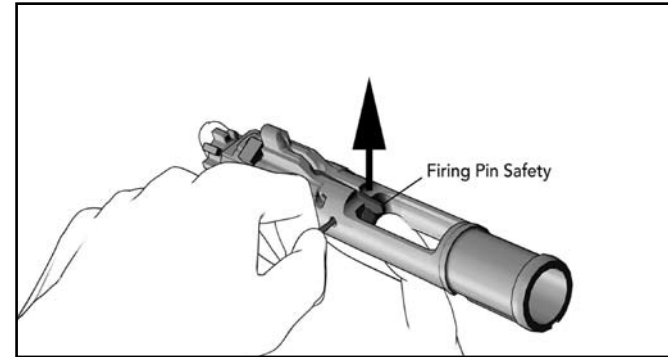

Fig. 39 – Drift out the Firing Pin Retaining Pin and lift up on the Drop Safety
- b. Insert the small tip of the disassembly tool into the right hand side of the firing pin retaining pin and drift the firing pin retaining pin from right to left until the firing pin retaining pin reaches its limit of lateral travel (Fig. 39).
- d. Lift up on the spring-loaded drop safety (firing pin safety) and remove the firing pin and firing pin spring (Fig. 39 and Fig. 40).